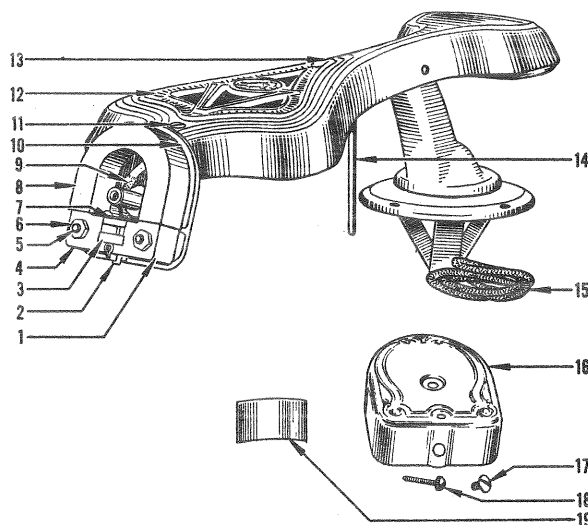

Fig. 29—Parts of Electric Pickup.
a. Remove the pickup from the pickup arm by taking out the retaining screw and nut, 11, Fig. 29. Pull the pickup away from the connector block.